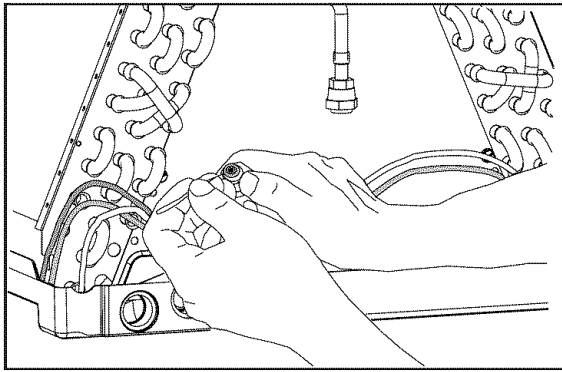

Figure 6. Removal of Orifice
4. Insert a light-gauge wire hook between the distributor body and the orifice to lift the orifice out of the body (See Figure 6). Carefully remove the orifice being careful not to scratch either part.